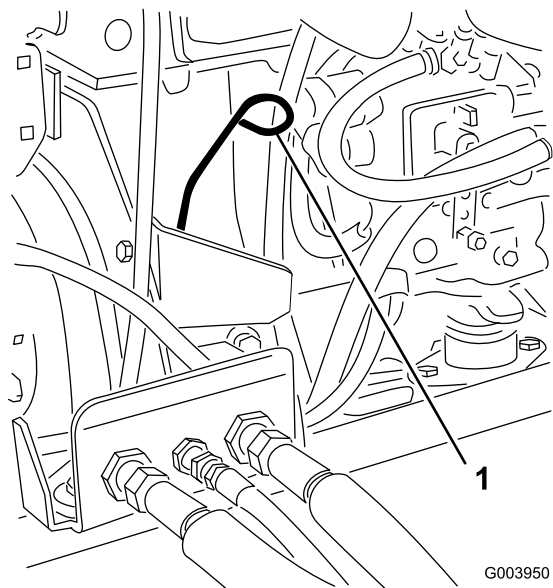

Figure 33
3. Remove the dipstick, wipe it clean, and install it (Figure 33).